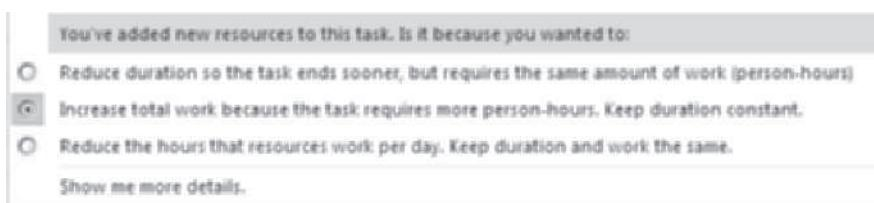

FIGURE A-42 Indicator column options
4. *Assign John to Task 2.* Click **John** in the Resource Name column of the Assign Resources dialog box, and then click **Assign**. Click **Close** in the Assign Resources dialog box. Notice that the duration for Task 2 remains at 2 hours, but an Exclamation point appears in the Indicator column for Task 2, as shown in Figure A-42. The default selection is to "Increase total work because the task requires more person-hours. Keep duration constant." That is what you want, so click **that option**, and the indicator symbol disappears. *This feature is a big change from previous versions of Microsoft Project, which automatically reduced the duration when more resources were added.*